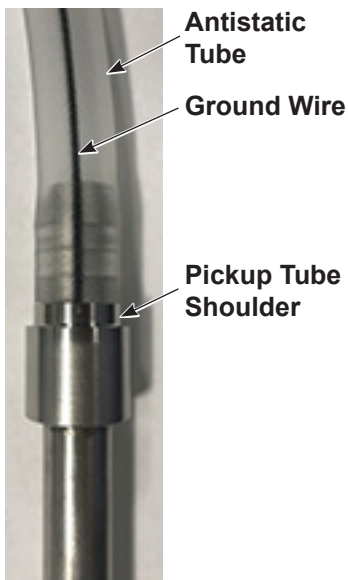

Figure 5 Install Antistatic Tube onto Pickup Tube
4. See Figure 5. Push the tubing onto the pickup tube barb all the way so the internal ground wire of antistatic tubing contacts the flange shoulder on the pickup tube.